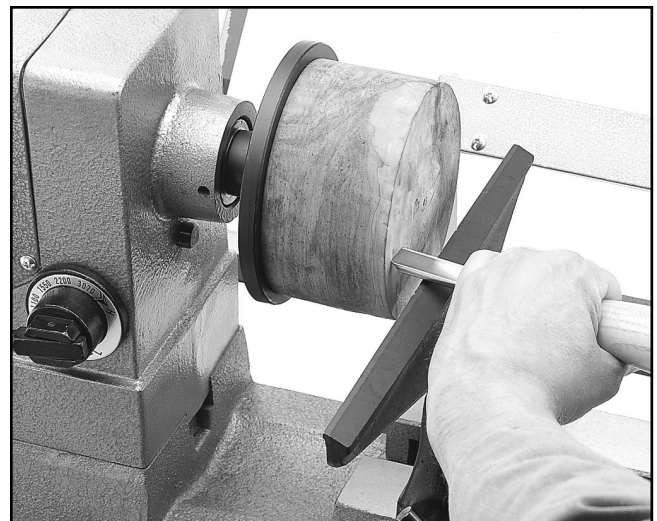

Figure 27. Typical faceplate turning setup.
5. Move the tool rest into position in front of the mounted workpiece. The position shown in **Figure 27** would be for shaping the face. The tool rest should be approximately ½" from the workpiece. When turning the outer edge the tool rest should be moved so it is in close proximity to the edge of the piece.